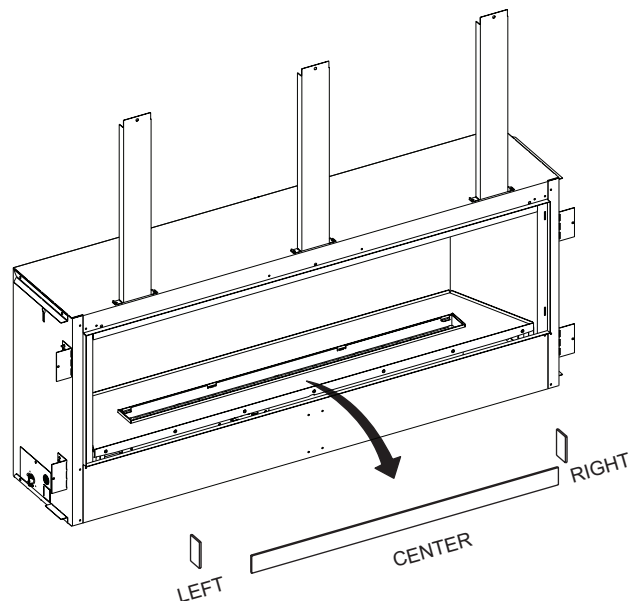

Figure 2
2. Remove glass panels around burner. **See Figure 2.**
12. Reinstall glass panels removed in Step 2. **See Figure 2.**